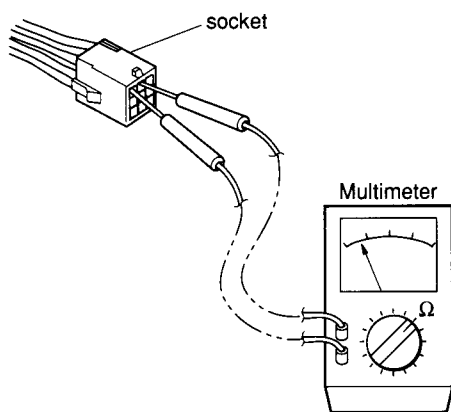

Fig. 48
(2) Checking of Protective Devices
- Then check continuity among plug's (and/or socket's) terminal as in **Fig. 48**.